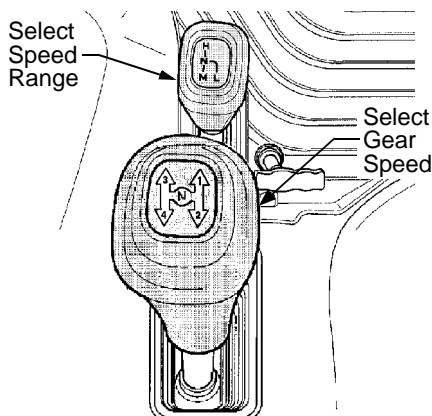

Figure 27
- Shift the Main Shift Lever to desired gear speed. See Figure 27.
- Shift the Hi-Lo Range Shift Lever to desired range. See Figure 27.